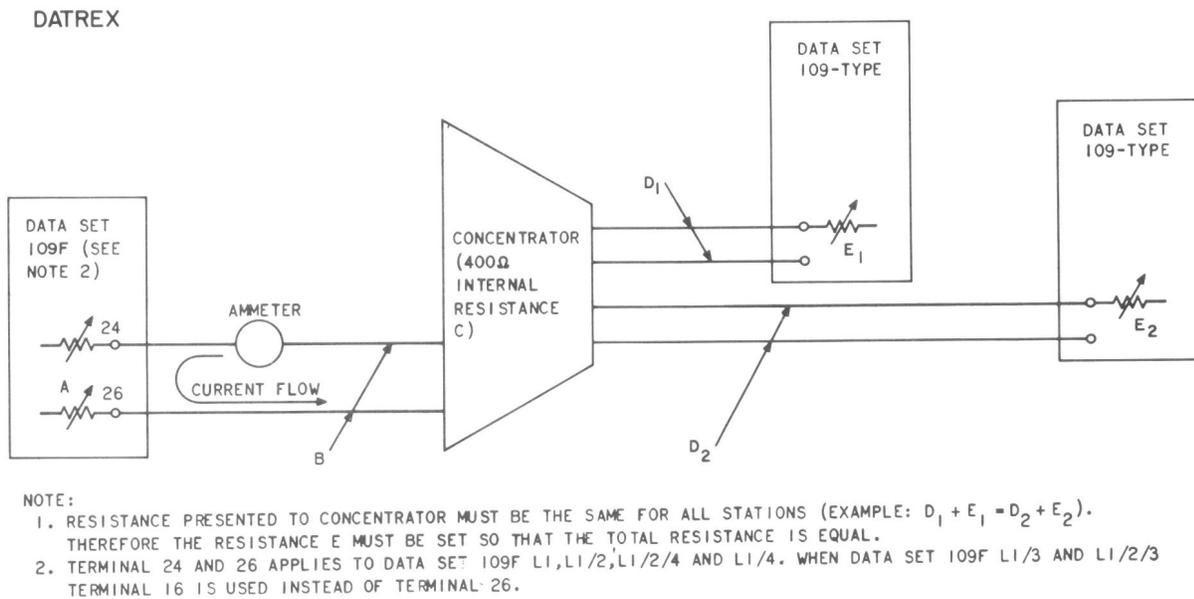

Fig. 10 — Data Set 109F — Line Connection Diagram for DATREX Arrangement
be considered in order to correctly connect the data set to the line. In the following instructions on connecting the data sets, the far-end station is assumed to be in a marking condition and conventional current flow (positive to negative) is used in determining the required connections. Refer to the following list and Fig. 10 for information on connecting the line to the data set.
4.03 The total resistance of a DATREX concentrator system is made up of the following parts (refer to Fig. 10) :
- The resistance supplied by the line-side data set (A of Fig. 10)
- The resistance of the line loop from the data set to the concentrator (B of Fig. 10)
- The effective resistance of the concentrator (C of Fig. 10 = 400 ohms)
- The resistance of the trunk link (D of Fig. 10, varies with physical location of the station)
- The resistance that can be supplied by the trunk-side data set (E of Fig. 10).
- (1) Connect the KS-14510-L5 volt-ohm-milliammeter in series with the line side of the data station as shown in Fig. 10 and measure the current.
- (2) When the measured current is greater than 3 mA, additional resistance will have to be added to the circuit by opening one or more of the screw switches in each side of the line. If the measured current is less than 3 mA, the screw switches will have to be closed to remove some of the pad resistance.
- (3) The screw switches are designated as S1, S2, S4, and S8 for each side of the line. These switches are always closed and opened in pairs, ie, both of the S1 switches, S2 switches,